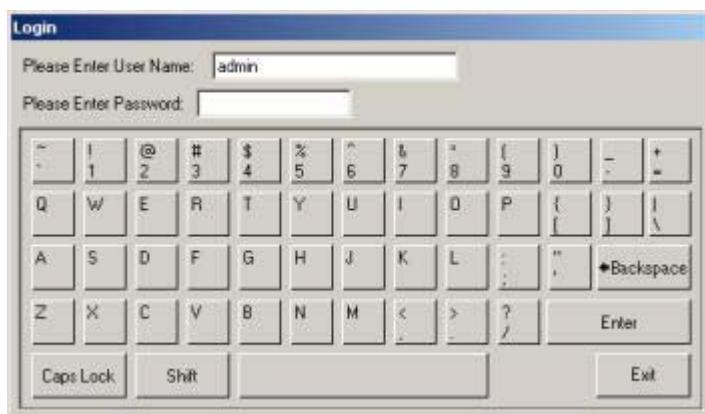

Figure 4-40- Login Password Dialog Box
12. The User Login Dialog Box Appears (Figure 4-40).